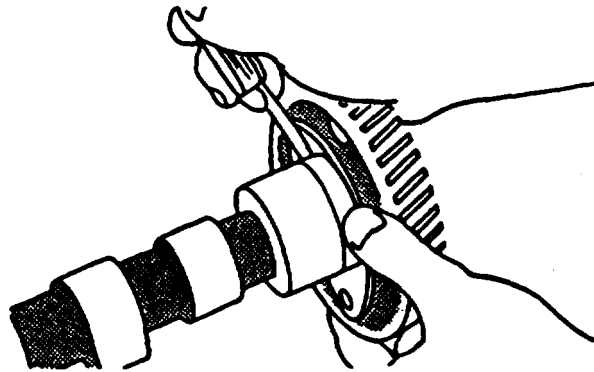

FIGURE 3-110. Measuring Thrust Plate Clearance
- (1) Check thrust plate clearance using a feeler gage, refer to FIGURE 3-110.
- (2) New part clearance is 0.003 to 0.009 inch (0.08 to 0.23 mm). Maximum allowable clearance is 0.015 inch (0.38 mm). Replace parts as necessary.